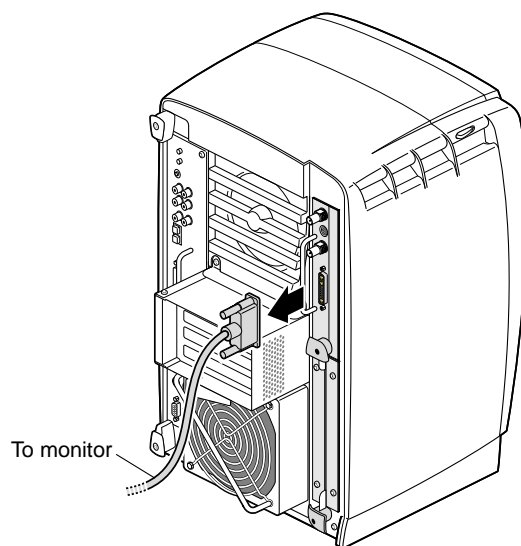

Figure 2-4 Removing the Monitor Cable
4. Remove all the cables from the XIO Tri-Module (only one is shown in Figure 2-4), then attach the wrist strap, as described in the next section.